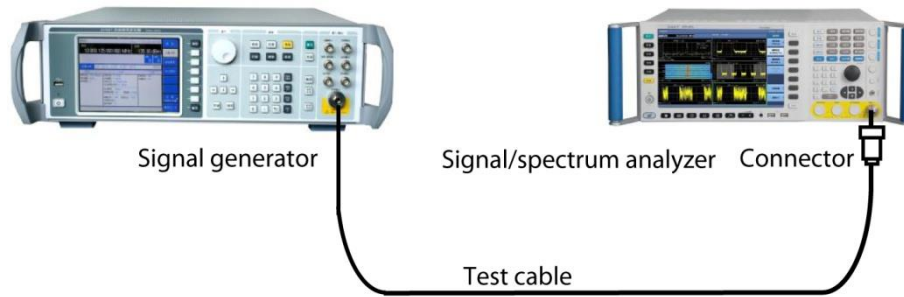

Fig. 4.78 Connection Settings of Third-order Intermodulation Measurements
Step 1. Connect the RF output ports of two signal sources with a directional coupler, and place the device under test (e.g. an amplifier) in between the output port of the directional coupler and input port of the analyzer, as shown in Fig.4.78.